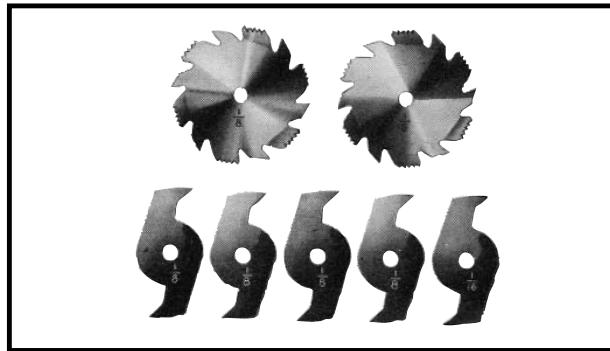
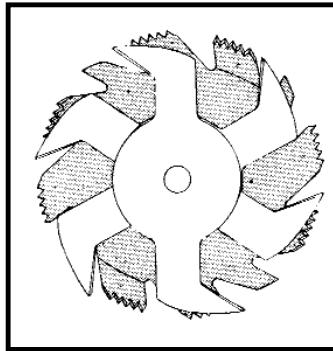
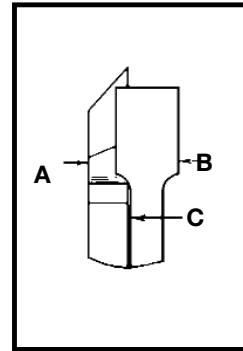

Fig. 48A
Fig. 49
Fig. 50
- Dadoing is cutting a rabbet or wide groove into the work. Most dado head sets are made up of two outside saws and four or five inside cutters, (Fig. 48A). Various combinations of saws and cutters are used to cut grooves from 1/8 inch to 13/16 inch for use in shelving, making joints, tenoning, grooving, etc. The cutters are heavily swaged and must be arranged so that this heavy portion falls in the gullets of the outside saws, as shown in Fig. 49. The saw and cutter overlap is shown in Fig. 50, (A) being the outside saw, (B) an inside cutter, and (C) a paper washer or washers, used as needed to control the exact width of groove. A 1/4 inchgroove is cut by using the two outside saws. The teeth of the saws should be positioned so that the raker on one saw is beside the cutting teeth on the other saw.